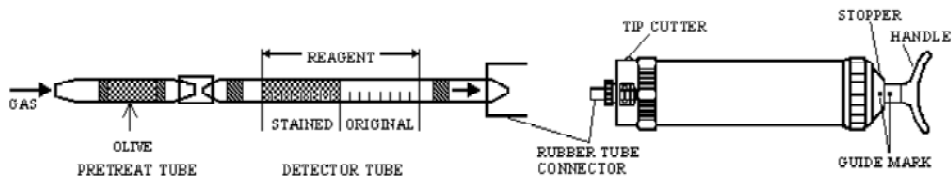

Fig.1
- ① Break both ends of detector tube and pretreat tube, and connect each end of the detector tube and pretreat tube with rubber tube connector as shown in Fig.1.
- ② Insert the detector tube into aspirating pump securely as shown in Fig.1 (Arrow mark shall point to the pump)
- ③ Align the guide marks on the shaft and stopper of the aspirating pump.
- ④ Pull the pump handle at full stroke until it locks and wait for 2 minutes or until the completion of sampling is confirmed with the flow indicator of the pump (See descriptions about the flow indicator in the instructions of the pump).
- ⑤ On completion of sampling, read the scale at the maximum point of the stained layer.